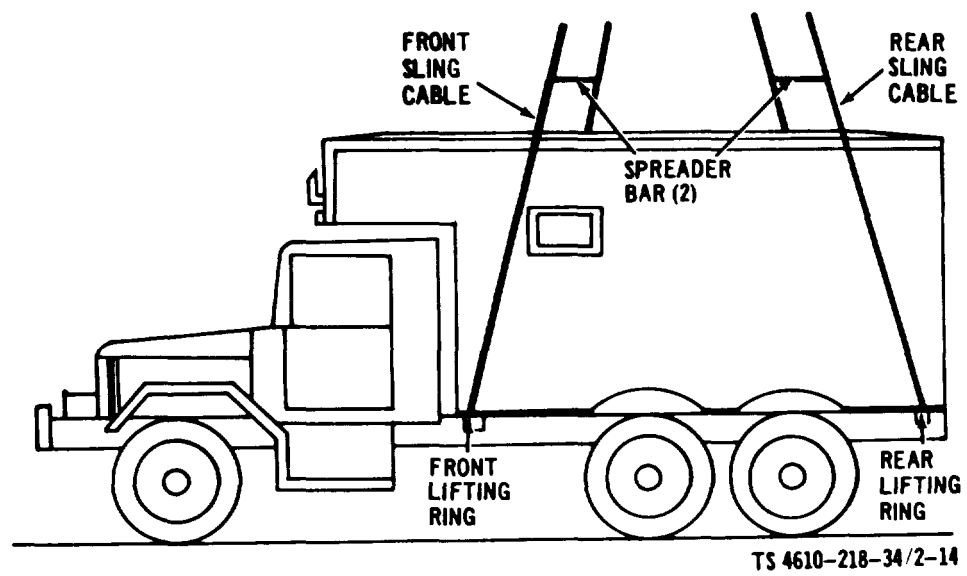

Figure 2-14. Lifting Van Body from Truck Chassis, Sling Points
(1) Disconnect and remove all electrical and fuel connections between the truck chassis and van body.
(2) Refer to figure 2-14 and attach the crane sling cables.